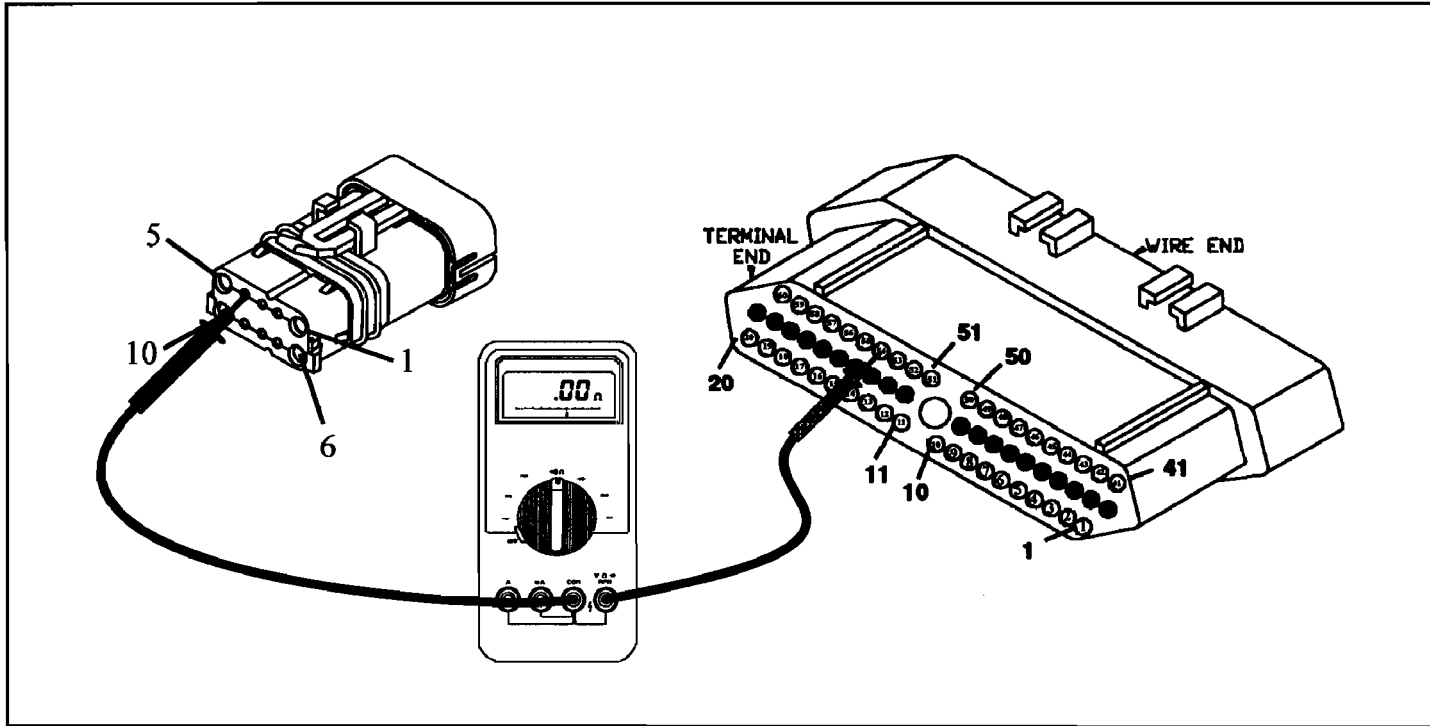

Figure 2
2. If less than 4.5 volts is observed, turn the ignition off and unplug the TCM. Change the meter to an ohms setting and check for continuity between terminal 54 in the TCM connector to terminal 4 in the TRS connector (See Figure 2). If continuity (5 ohms or less) is seen, replace the TCM. If continuity is not seen, repair or replace the wire.